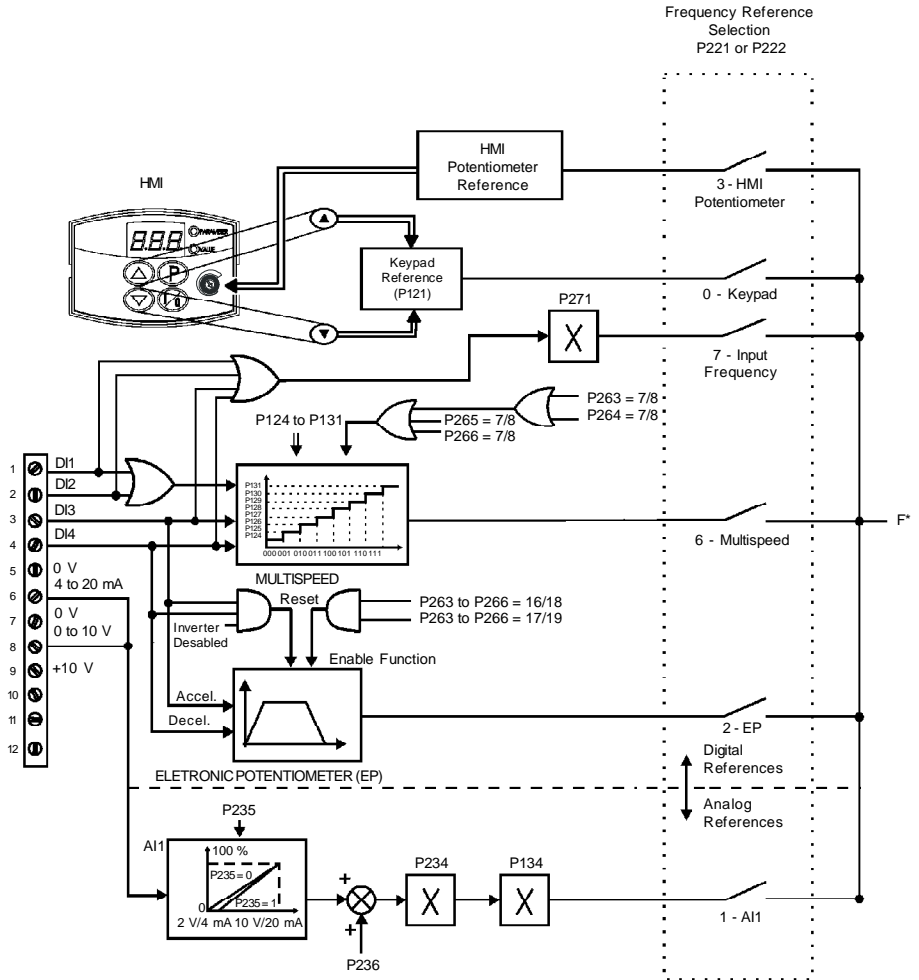

Figure 6.1 - Block diagram of the frequency reference
Figure 6.1 shows through a diagram block the frequency reference definition to be used by the inverter.
- ☑ In V/F control mode ($P202 = 0$ or 1), $Fe = F^*$ (see Fig. 6.1) if $P138 = 0$ (slip compensation disabled). If $P138 \neq 0$, see figure 6.9 for the relation between Fe and F^* .